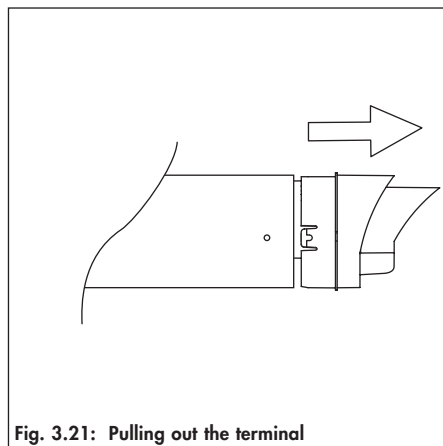

Fig. 3.21: Pulling out the terminal
- Pull the terminal together with the flue duct out of the air duct (fig. 3.21).